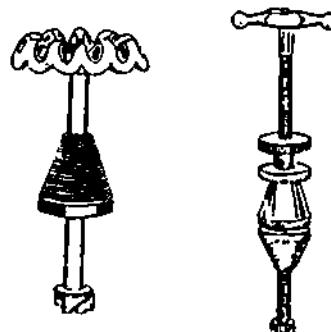

Figure 23-4. Two Types of Faucet-Seat Dressers
6. A scored compression-faucet seat can be ground quite smooth with a faucet-seat dresser, two types of which are shown in Figure 23-4.